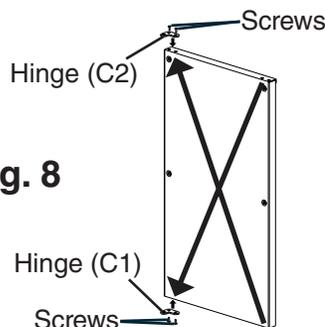

**Fig. 6**
d) Remove hinge (B) from the right side of the appliance and the 2 filler screws from the left side. Attach the 2 filler screws to the right side and attach hinge (B) to the left side. See Fig. 6.